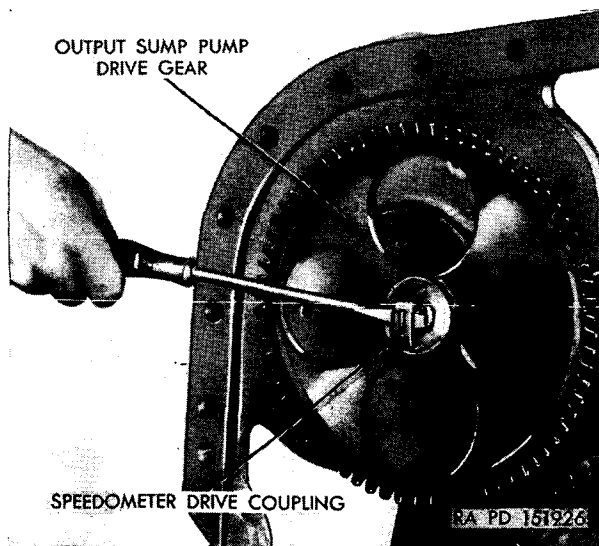

Figure 187. Removing speedometer-drive coupling.
- (1) The right brake was disassembled in paragraph 23i.
- (2) Suspend the end plate assembly from a hoist, resting the bottom of the end plate on the teardown table.
- (3) Remove the speedometer-drive coupling from the center of the output-sump-pump drive gear with a screwdriver (fig. 187). Using a ⅝-inch wrench, remove the pump-gear retaining nut and remove the pump drive gear from the splined shaft.